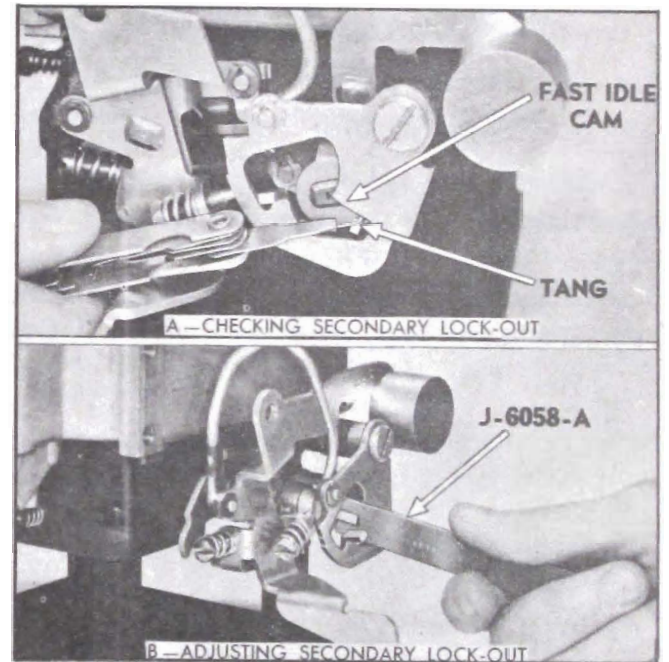

Figure 3-84—Secondary Lock-Out Adjustment
5. Close choke valve so that secondary throttle lock-out tang is in lock-out slot of fast idle cam. Check clearance between tang and upper edge of slot using .015" end of Gauge T-109-44. See figure 3-84, (View A).
this clearance using Tool J-6058A. See figure 3-84, (View B).